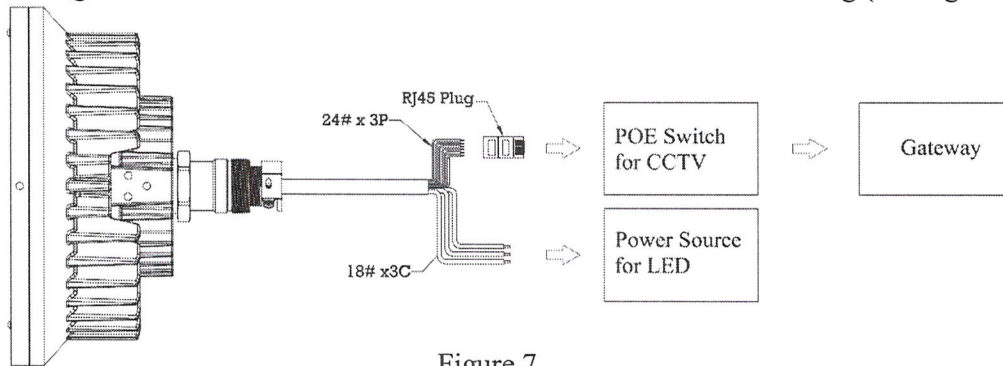

Figure 7
1. Insert the cable (2) of the luminary into the Ex certified Junction Box (1).
2. Fix and Introduce the wires of luminary with the terminal post of Junction Box (White-wire connects to Neutral; Red-wire connects to Live; Green-wire connects to Ground.). CCTV connection see Figure 7 & 8.
- ☞ The 18 # x 3C wires is intended for the LED power connection (see Figure 7)
- ☞ The 24# x 3P wire is intended for the POE (Max. 48V, 0.35A) connection (see Figure 7)